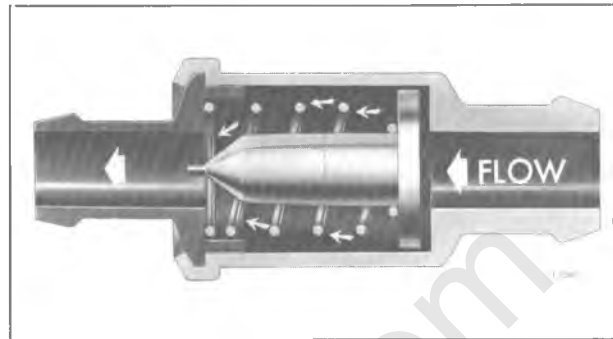

Figure 10—Typical Crankcase Ventilation Valve for In-Line Engine
3. Remove ventilation valve (2) with hose (4) attached. Block the inlet opening in ventilation valve and note change in engine rpm.
5. Install new valve assembly; or if valve (fig. 10) is operative, reinstall in rocker arm cover.